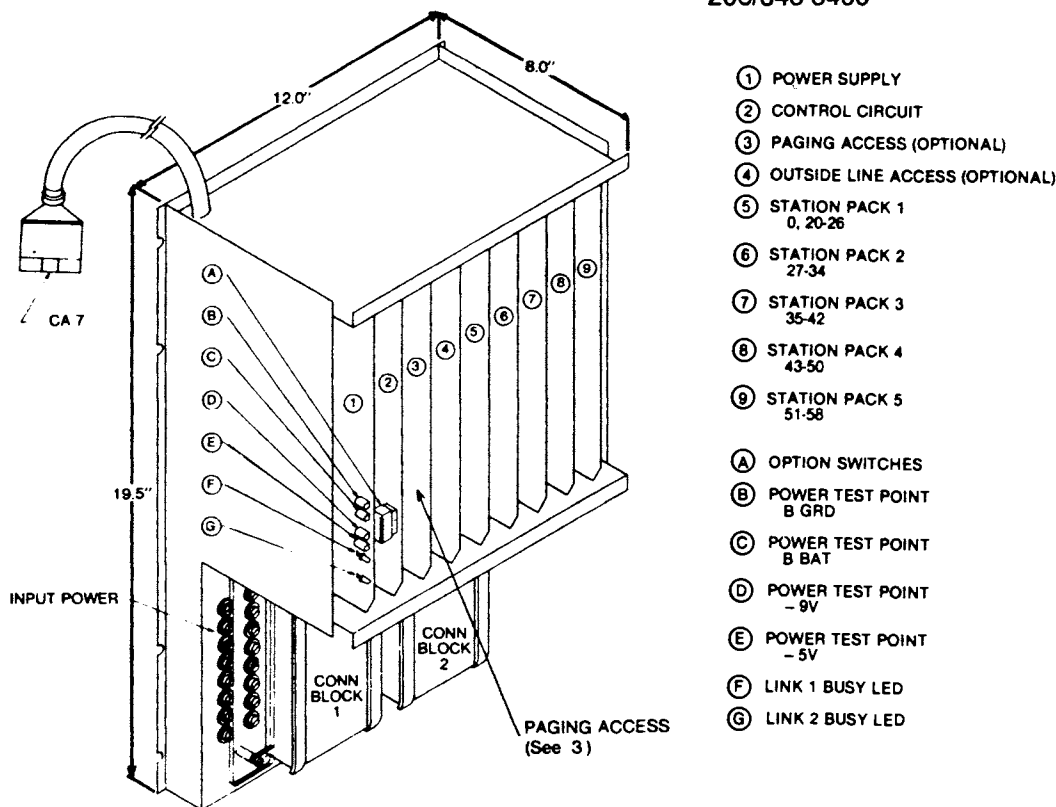

Figure 2—Front of KL-30 Showing Circuit Pack and Miscellaneous Component Locations.
3.02 Insert the Four Area Pager circuit pack into position 3 of the KL-30 (components to the left). See Figure 2.